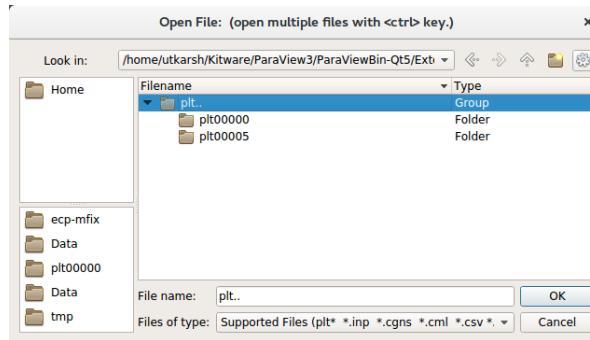

Fig. 15.2: : File dialog in ParaView showing a group of plotfile directories selected
2. Navigate to your run directory, and select the fluid or particle plotfile. Note that you can either open single/multiple plotfile(s) at once by selecting them one by one or select an ensemble of file, labelled as `plt..` and indicated as a Group in the “Type” column of the file explorer (see Fig. 15.2). In the later case, Paraview will load the plotfiles as a time series. ParaView will ask you about the file type – choose “AMReX/BoxLib Grid Reader” or “AMReX/BoxLib Particles Reader”.
1. Run ParaView v5.7, and select then “File” → “Open”. You will see a combined “plt..” group. Click on “+” to expand the group, if you want inspect the files in the group. You can select an individual plotfile directory or select a group of directories to read them a time series, as shown in Fig. 15.2, and click OK. ParaView will ask you about the file type – choose “AMReX/BoxLib Particles Reader”.